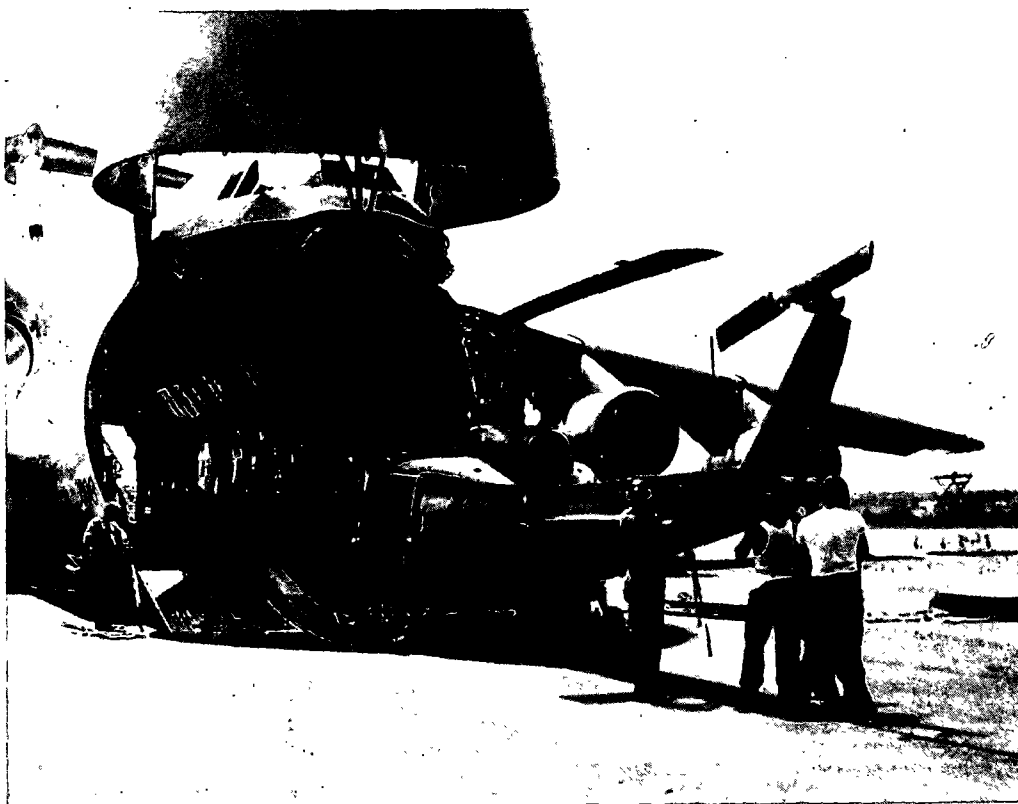
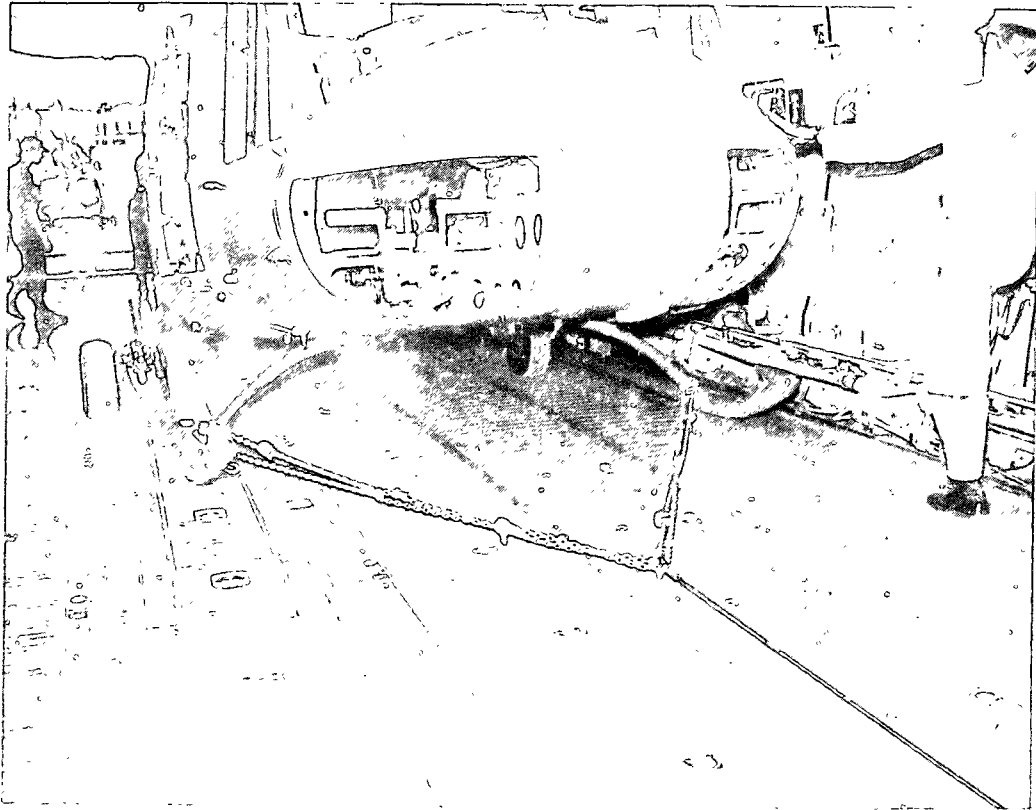

Figure 2-18. UH-1 helicopter positioned for loading.
Figure 2-19. Airplane winch cable hooked to towing bridle.
(1) Position the UH-1 helicopter, facing in the appropriate direction in front of the C-5 ramp, in line with the ramp-toe extension as shown in figure 2-18. Attach the airplane winch cable hook to the towing bridle (fig 2-19).
(2) Station the 10-man loading team: Four men at the empannage; two men at the cargo door